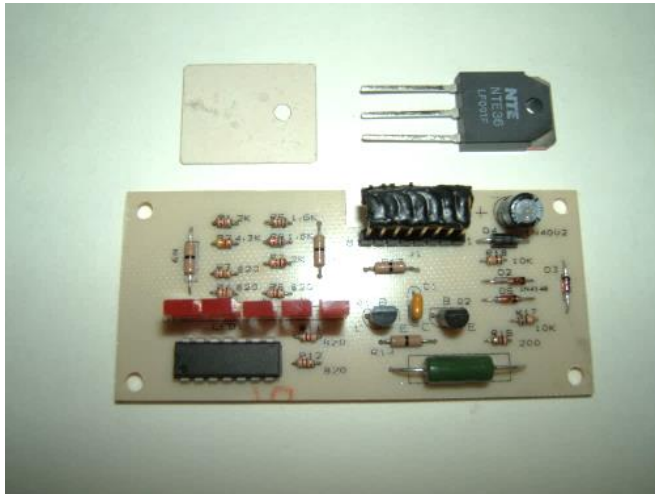

Figure 22 – J.C. Ritchey BHT/BHTU main board replacement kit (photo courtesy James Ritchey)
In the rare case that the UYPC48 main board is damaged beyond repair, an aftermarket replacement (see Figure 22) is available from J.C. Ritchey Company, LLC (item 6 of Table 2). This board, which is a drop-in replacement for the original Olympus board, comes complete with a replacement power transistor and the